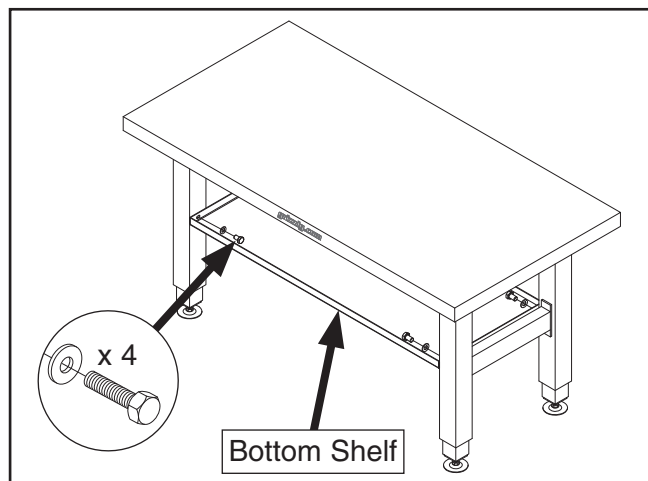

Figure 16. Bottom shelf installed.
19. Attach bottom shelf to legs with (4) $\frac{5}{16}$ "-18 x $\frac{3}{4}$ " hex bolts and $\frac{5}{16}$ " flat washers, as shown in **Figure 16**.